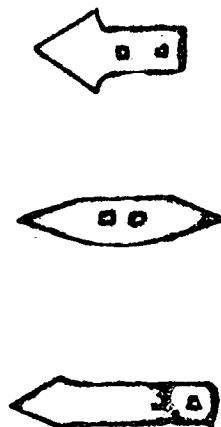

Fig. 4
- *Harpoon point.* These are for working on seedbeds and flat lands. The soil runs over the point without piling up (Fig. 4).